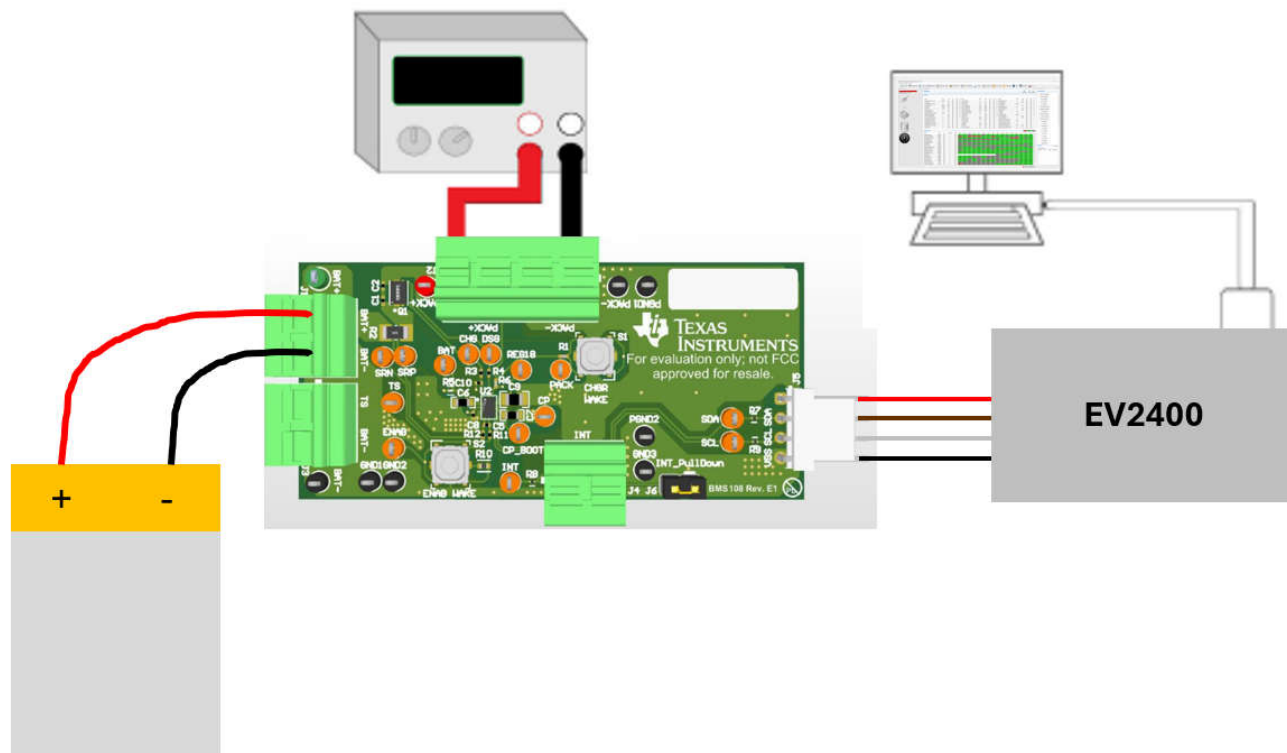

Figure 2-1. Connect the BQ27Z855 Circuit Module to a 1SxP
Figure 2-1 shows how to connect the BQ27Z855 circuit module to the battery, personal computer (PC), and a system load/charger.